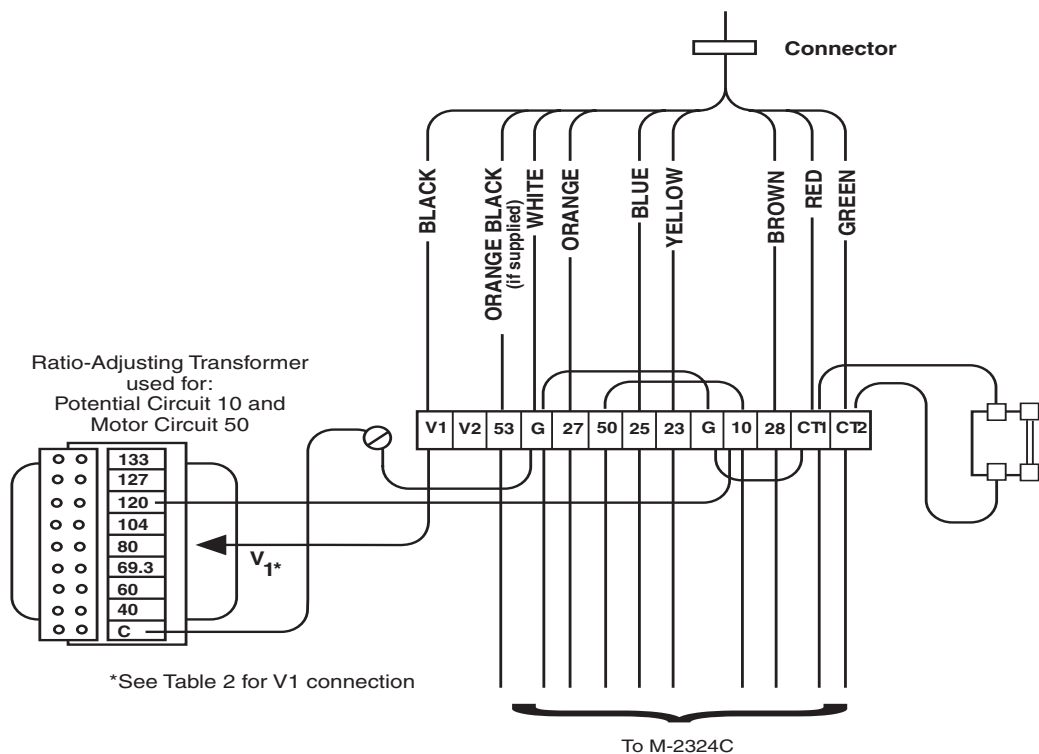

Figure 12 Wiring for Regulators Equipped with Spring-Driven Tapchangers
- a. If the regulator is equipped with a "Spring Driven" tapchanger, then refer to Table 2 and Figure 12 for connections.